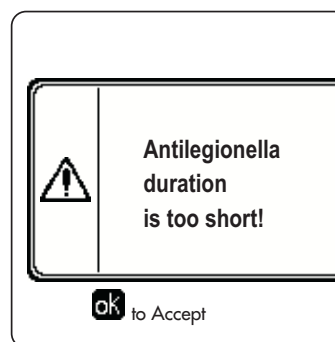

fig. 27- Message Anti-legionella function not completed
- If the **Anti-Legionella Function** is not carried out correctly, the message shown in fig. 27 is displayed. Even in the presence of this message, the boiler will continue to operate correctly.